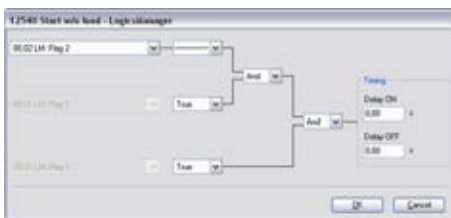

Fig. 159: LogicsManager function "Start without load"
3. ➤ The LogicsManager function "Start without load" (parameter 12540 ↪ p. 253) can be configured as shown in (Fig. 159).